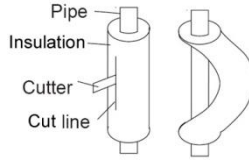

Fig. 4.12
4. Do not bend the pipe while it is incased in the insulation. In this case, cut the insulation with a sharp cutter as shown in Fig. 4.12, and bend it after exposing the pipe. After bending the pipe as you want, be sure to put the heat insulating pipe back on the pipe, and secure it with tape.
5. Examine the connection pipe to see if it leaks, then apply the thermal insulation for the liquid and gas lines, as shown in the Fig. 4.12.